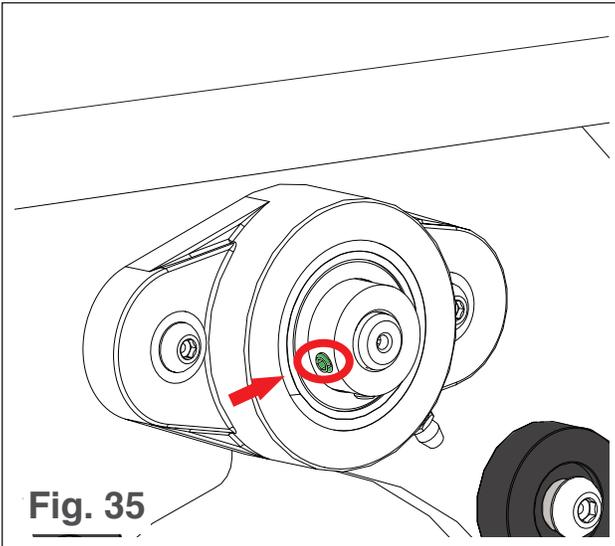

Fig. 35
4. Insert and tighten the set screws on both brush bearing flanges (see Fig. 35).